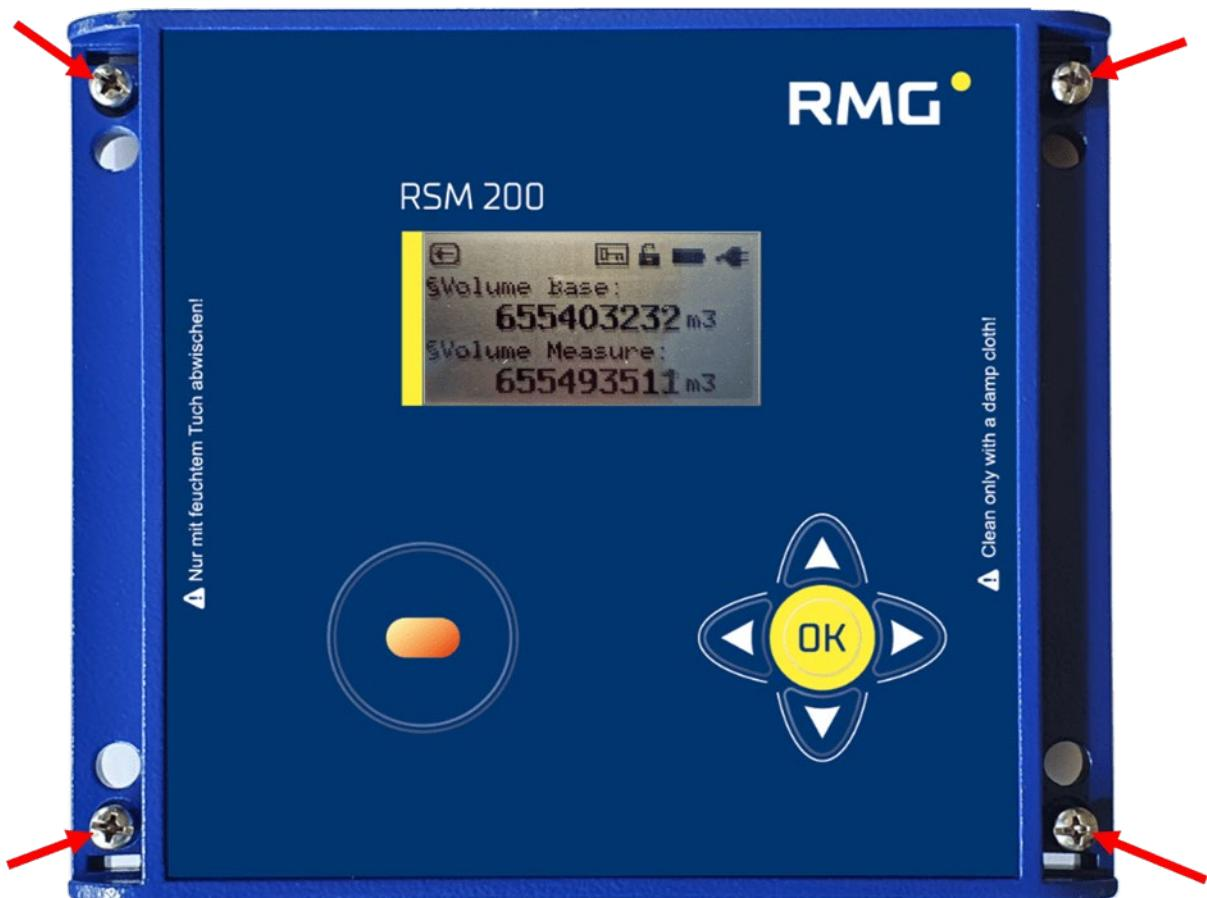

Figure 8: Unscrewing the screws to open the cover
However, the orientation can be easily changed. The extension on the plug-in axle, green in the illustration (2) between the measuring device and the electronics must be turned 180° for this purpose. In doing so, the device loses neither its calibration nor its parameterization. The measuring device on the right side of figure 8 shows the changed orientation.